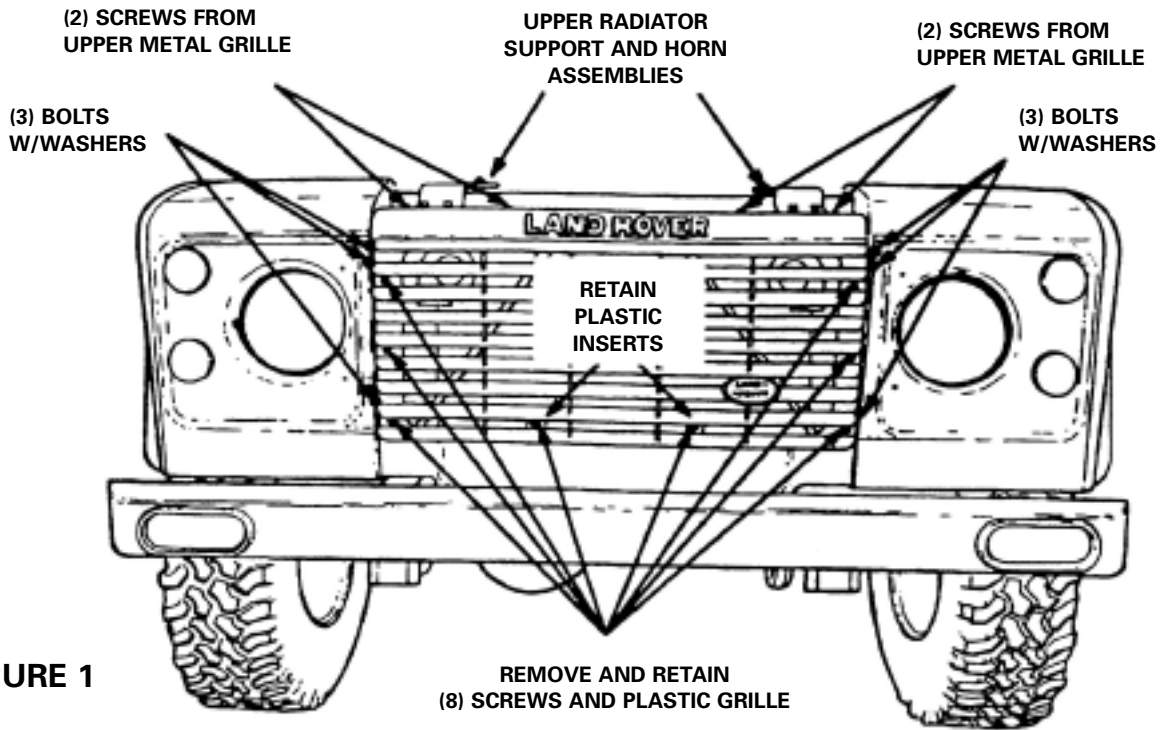

FIGURE 1
2. Remove the front grille. (See Figure 1)